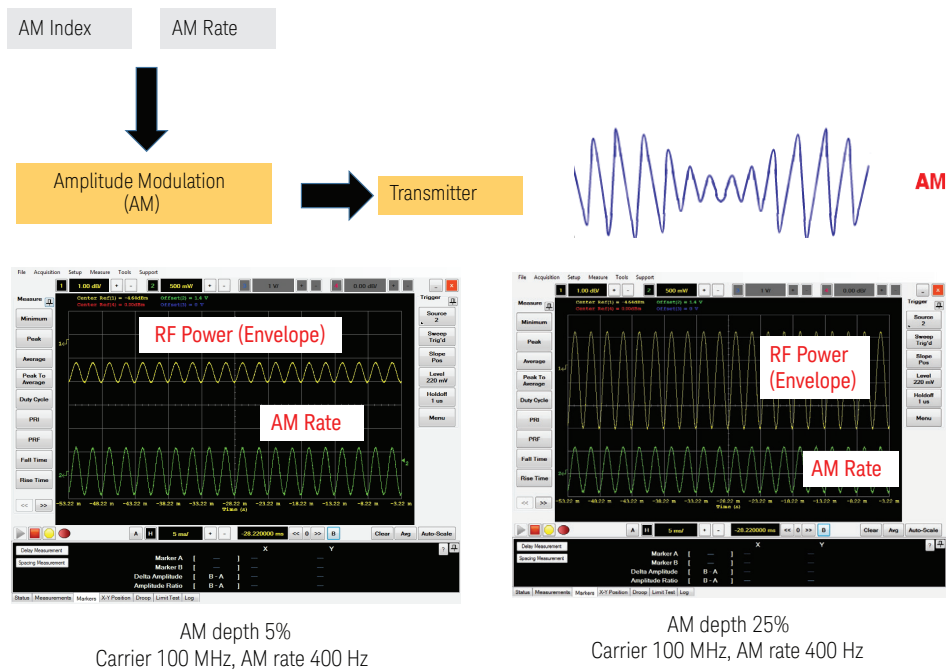

Figure 5. AM transmitter RF envelope power measurement (time based) with various AM rates
In the study of analog modulation, students learn about the fundamental techniques and signal behavior of the amplitude modulation (AM) and frequency modulation (FM). There is a need to understand the RF power that is being transmitted or received by the AM or FM circuits. For example, in AM transmitter circuit study, students often need to know how the AM depth affects the transmitted RF power, as illustrated in Figure 5.